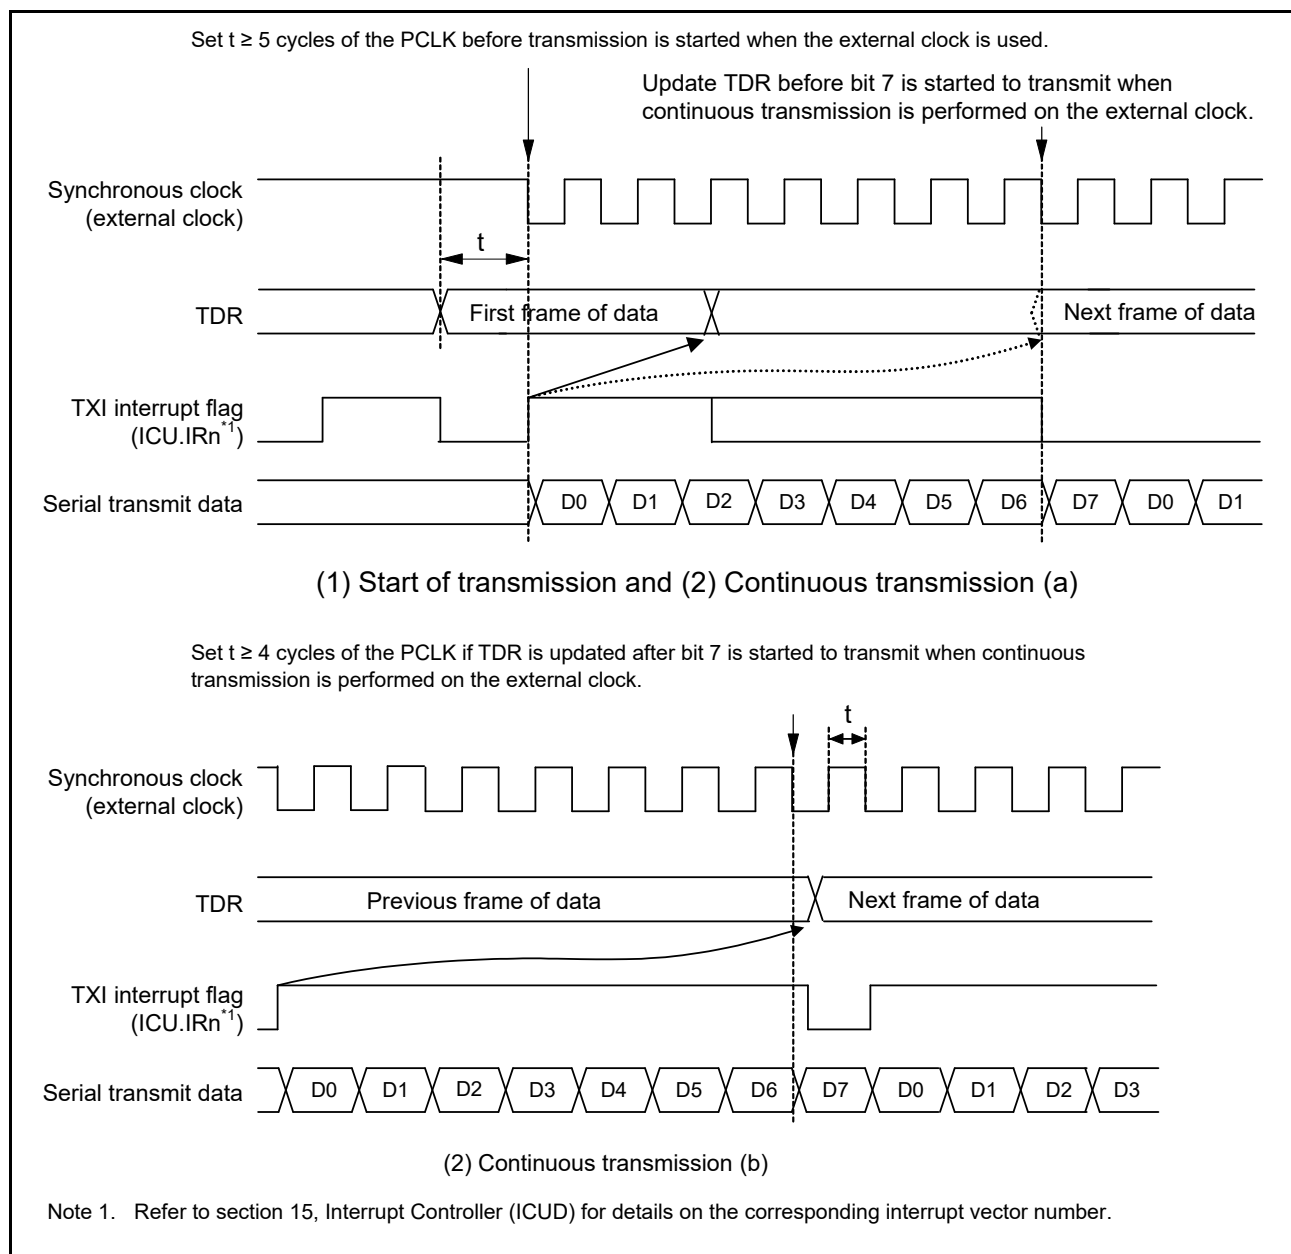

Figure 41.80 Restrictions on Use of External Clock in Clock Synchronous Transmission
Update the TDR register by the CPU, DMAC, or DTC and wait for at least five PCLK cycles before allowing the transmit clock to be input (refer to Figure 41.80).
(2) Continuous transmission
- (a) Write the next transmit data to the TDR or TDRL register before the falling edge of the transmit clock (bit 7) (refer to Figure 41.80).
- (b) When updating the TDR register after bit 7 has started to transmit, update the TDR register while the synchronization clock is in the low-level period, and set the high-level width of the transmit clock (bit 7) to four PCLK cycles or longer (refer to Figure 41.80).